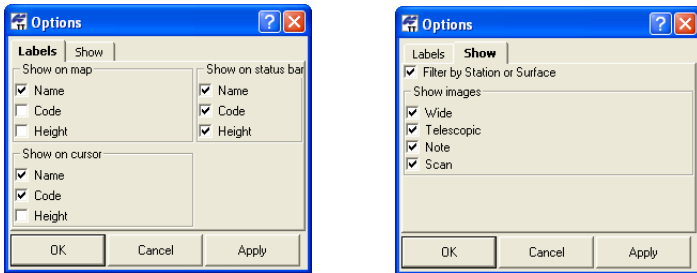

Figure 4-60. Image tab -> Labels and Show Options
1. Right-click on an empty portion of the *Image* tab and click *Options* on the pop-up menu. The Options dialog box displays (Figure 4-60).
2. On the *Labels* tab, enable the desired settings (Figure 4-60). Click **Apply** to apply the changes, then click **OK** to save the settings.
3. On the *Show* tab, enable the desired settings (Figure 4-60). Click **Apply** to apply the changes, then click **OK** to save the settings.